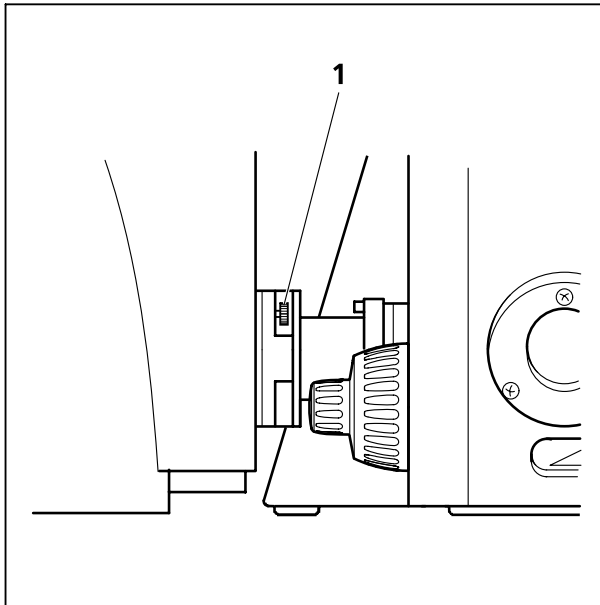
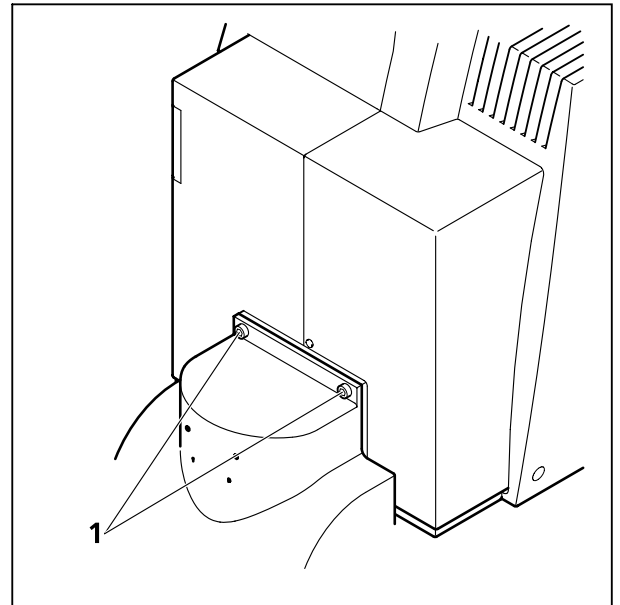

Fig. 1-17 Port connection between LSM and Axiovert 200 M
Fig. 1-18 Fastening screws of the scan head at the front of the tube on Axioskop 2 FS MOT and Axio Imager.Z1
- Loosen the screws on the port to the microscope for Axiovert 200 M (Fig. 1-17/1) or to the tube on Axio Imager.Z1 and Axioskop 2 FS MOT (Fig. 1-18/1).
- Slowly pull the scan head away from the microscope port or the tube. For mounting the scan head onto a microscope, make sure the pins and the electronic connections of the safety interface match closely. Fasten the screws on the front of the tube (Fig. 1-18/1) or at the microscope port (Fig. 1-17/1) followed by fastening the screw on the back of the scan head (Fig. 1-15/1 and Fig. 1-16/1).